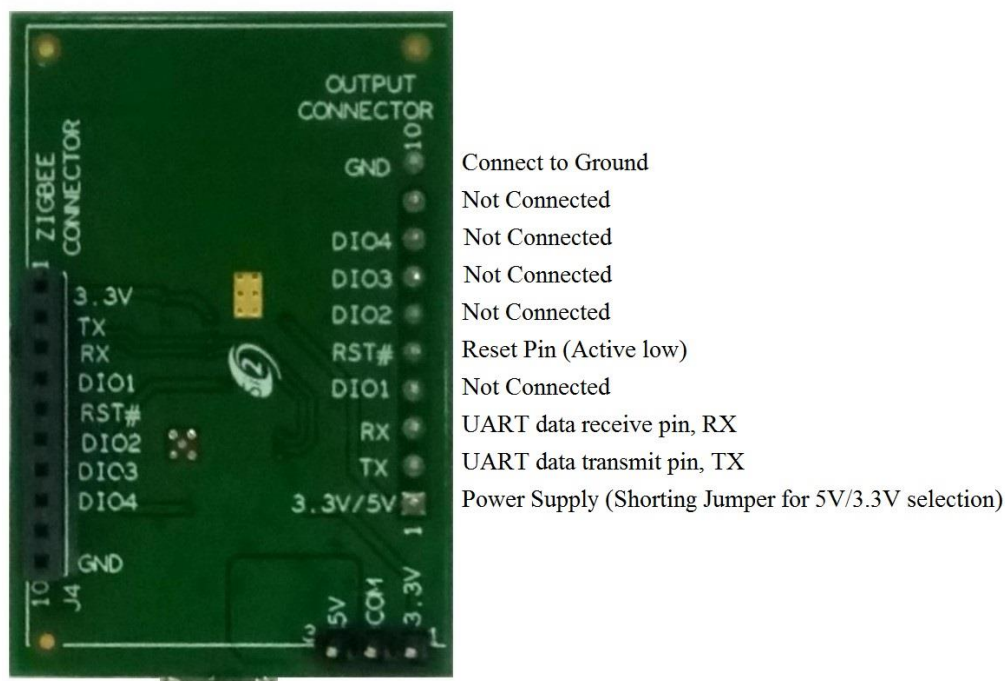

Figure 3: Yoda Adapter Pin Description
2. Click on Tools/Project Settings and select COM Port as shown in Figure 3.